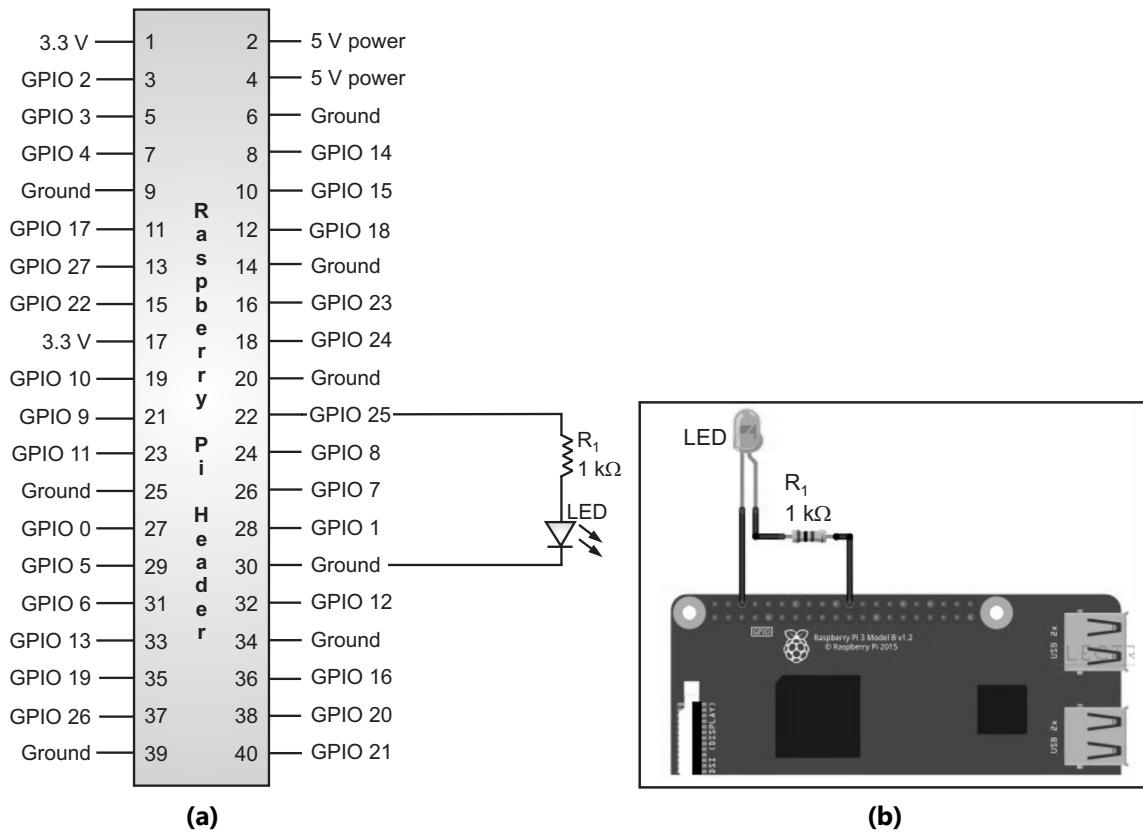

Fig. 4.3: Python's IDEL editor
- To write first Python program, open Python's IDEL editor, In Menu →Programming → and click on Python 3 as shown in below Fig. 4.3.